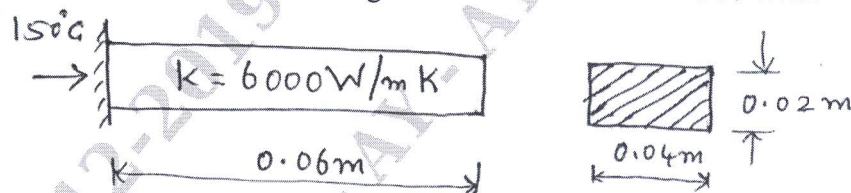

Fig. Q8 (a)
- 8 a. Determine the temperature distribution in the rectangular fin shown in Fig. Q8 (a). Neglect convection heat transfer and assume heat generated inside the fin as 500 W/m^3 (08 Marks)